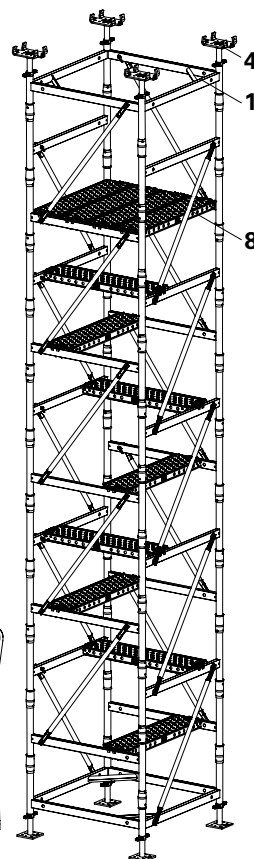

Fig. A2.02
2. Spindle-shaped installation of Steel Deck UDG 25 x 100 (8) for use as access means and platform (assembly aid). (Fig. A2.02)
3. Install Diagonal Struts (5) and Safety Straps according to the individual application and static requirements. Assembly: see A1.
4. Insert Base-Head Frame (1).
5. Adjust Head Spindles (4) accordingly and insert into the Base-Head Frame. (Fig. A2.02)